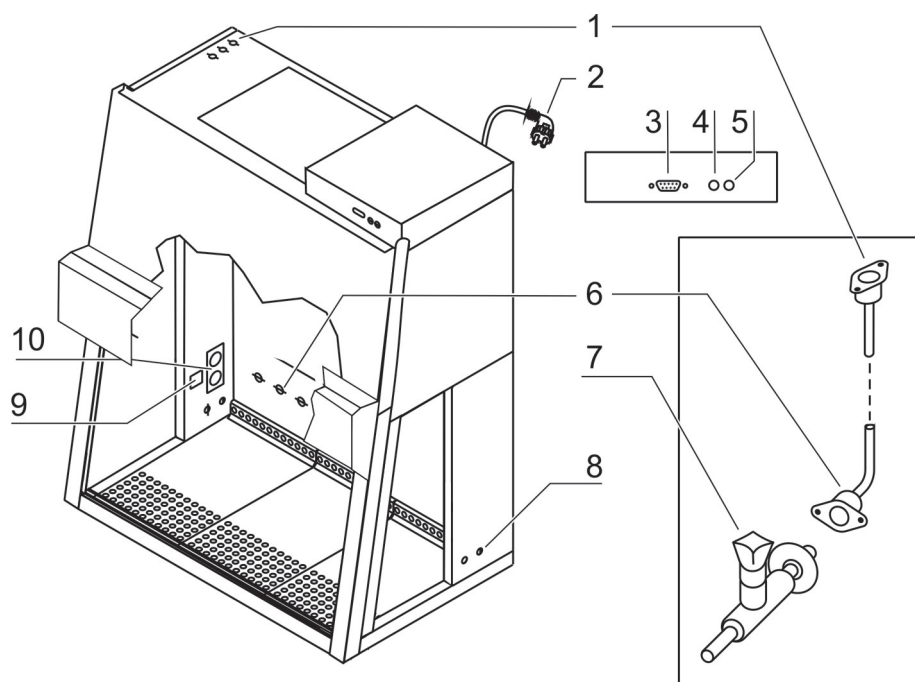

Fig. 7a
**Fig. 7a:** The standard equipment includes the outlets [10] for internal power supply as well as the openings [8] on both sides for routing of cables and hoses. All other supply connections are available as options.
**Disinfection adapter (optional), Fig. 7a:** The disinfection adapter [9] is used to connect a mobile UV radiation device. The adapter is connected to the device control, the UV disinfection routine with a mobile UV device may be controlled with the remote control.